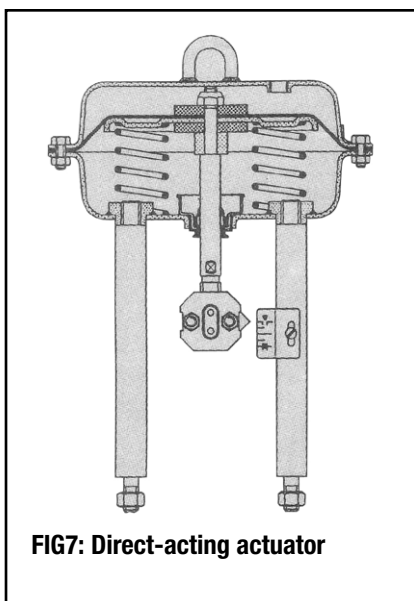
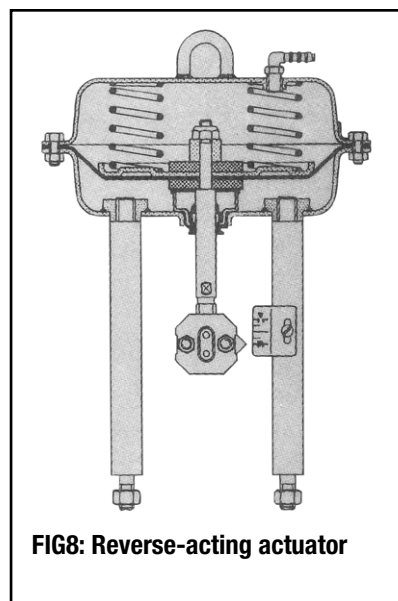

FIG7: Direct-acting actuator
FIG8: Reverse-acting actuator
5. Assemble the internal parts in accordance with Figure 7 (direct-acting) or Figure 8 (reverse-acting). To reassemble, follow points 1 to 4 in reverse order. Ensure that the actuator springs are evenly distributed inside the casing and vertically located by the spring buttons of the diaphragm plate.
5. A new actuator diaphragm and assemble the internal parts in accordance with Figure 7 (direct-acting) or Figure 8 (reverse-acting). To reassemble, follow points 1 to 4 in reverse order. Ensure that the actuator springs are evenly distributed inside the casing and vertically located by the spring buttons of the diaphragm plate.